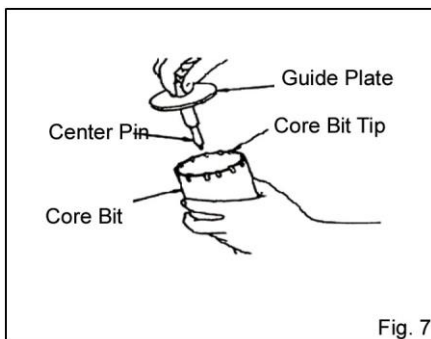

Fig. 7
- 4) Fit in the guide plate by aligning its concaved portion with the core bit tip. When the position of the concave is shifted by turning the guide plate right or left, the guide plate never slips off even when the tool is used in a downward direction. (Fig. 7)